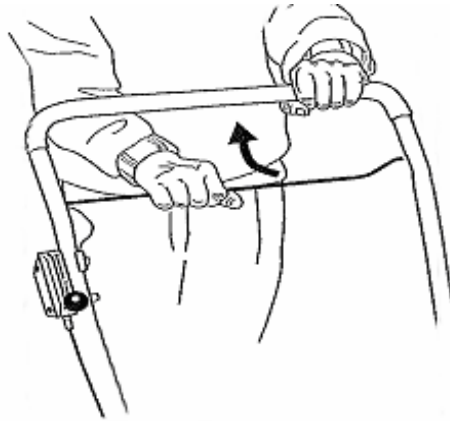

Figure 9
**For Mowers equipped with Operator's Presence Control (OPC), pull the OPC arm up toward the handle and hold it securely with left hand. (Fig. 9)